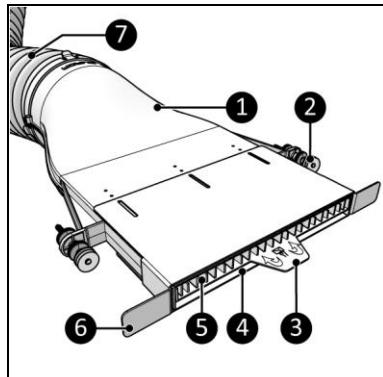

Figure 1
The Way-out (Figure 1) is an easy-to-use mailbox transit to which a portable air conditioning system can be installed. An air conditioning hose transports hot air through the Way-out and mailbox opening. The maximum opening of the mailbox slot (Figure 1, pos. 4) is 5 mm. A larger opening is not possible to ensure that an air conditioning system can discharge hot air in all weather conditions.
Make sure that the air outlet (Figure 1, pos. 5) is never blocked.
If the mailbox slot (Figure 1, pos. 4) is (partially) blocked by mail, remove the mail from the mailbox slot.